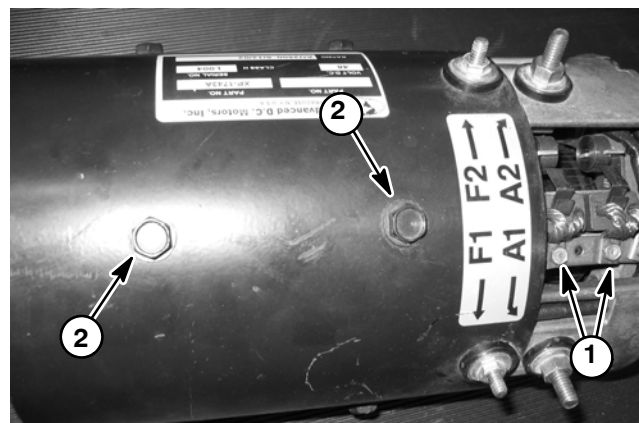

Figure 59
3. Brushes should always be replaced in complete sets of eight. Use identical replacement parts; do not substitute brush grades as the brushes are matched to the motor type and application to provide the best service. Substituting brushes of the wrong grade can cause premature commutator failure and excessive brush wear. Remove old brushes and replace with identical replacement parts. Hold brush shunts in position and torque brush screws from **18 to 22 in-lbs (2.0 to 2.5 N-m)** (Fig. 59). Make sure brushes move freely in the holders and that shunts do not interfere with brush spring movement.
4. Screws securing the pole pieces to the frame should be torqued from **250 to 300 in-lb (28.3 to 33.9 N-m)** (Fig. 59).